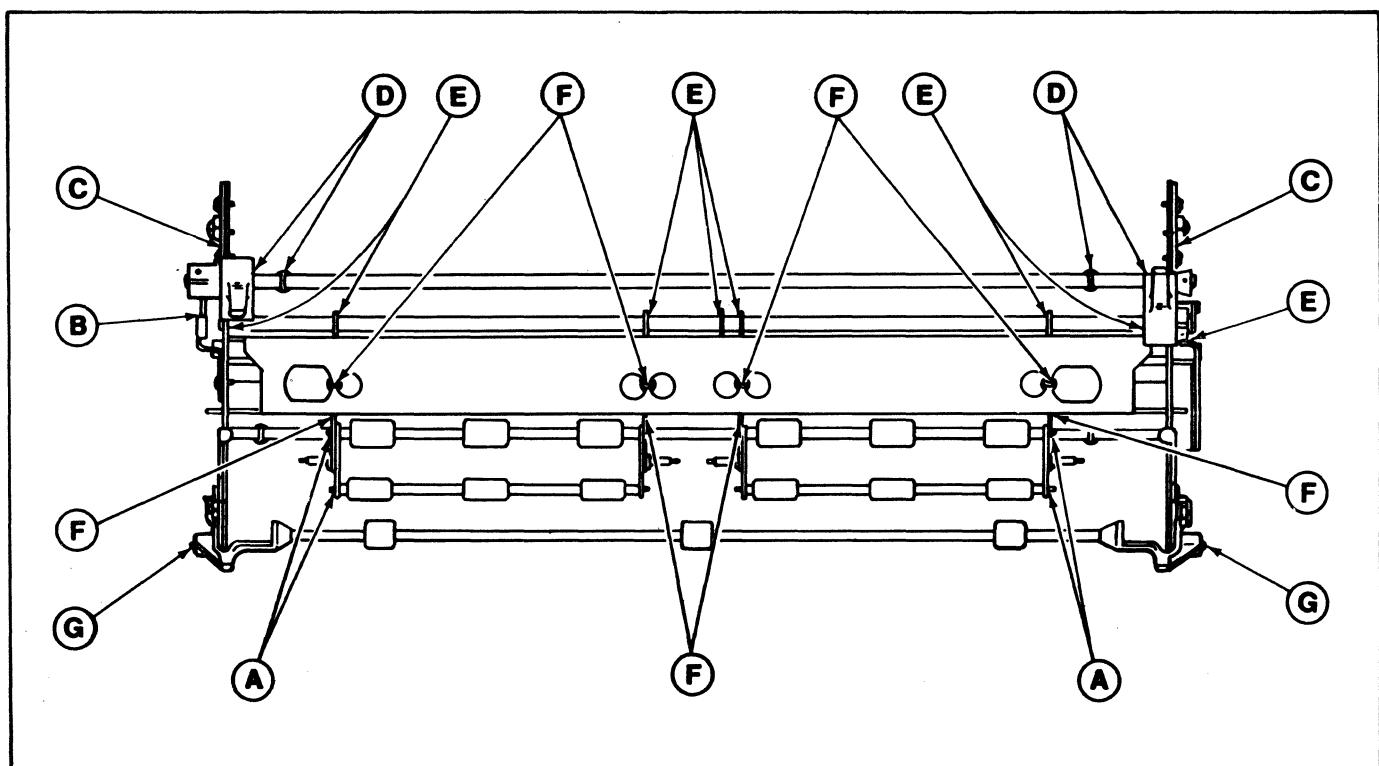

Figure 3-1. Carrier System Lubrication Points
3.2.3.1 CARRIER SYSTEM (Figure 3-1)